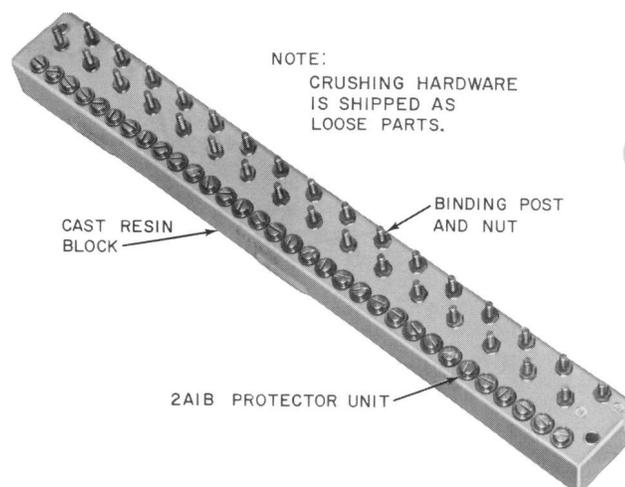

Fig. 3—57A2B-16 Connecting Block
2.04 57A2B-Type Connecting Blocks (Fig. 3):